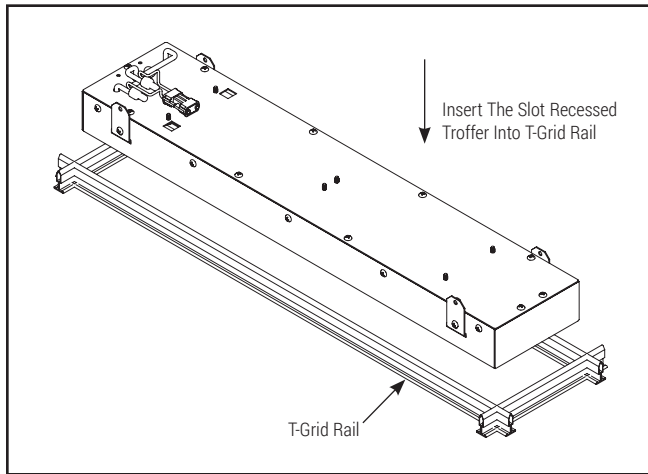

Figure 5.
8. Pass fixture through the grid at 45 degree angle and lay fixture into the grid (Figure 5.)